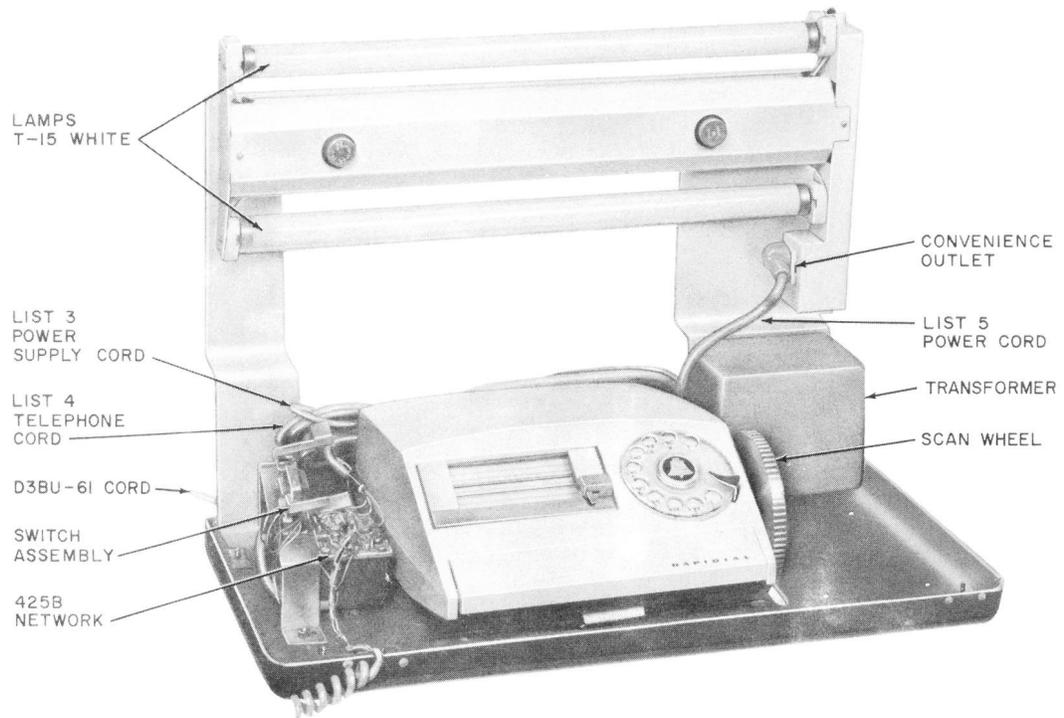
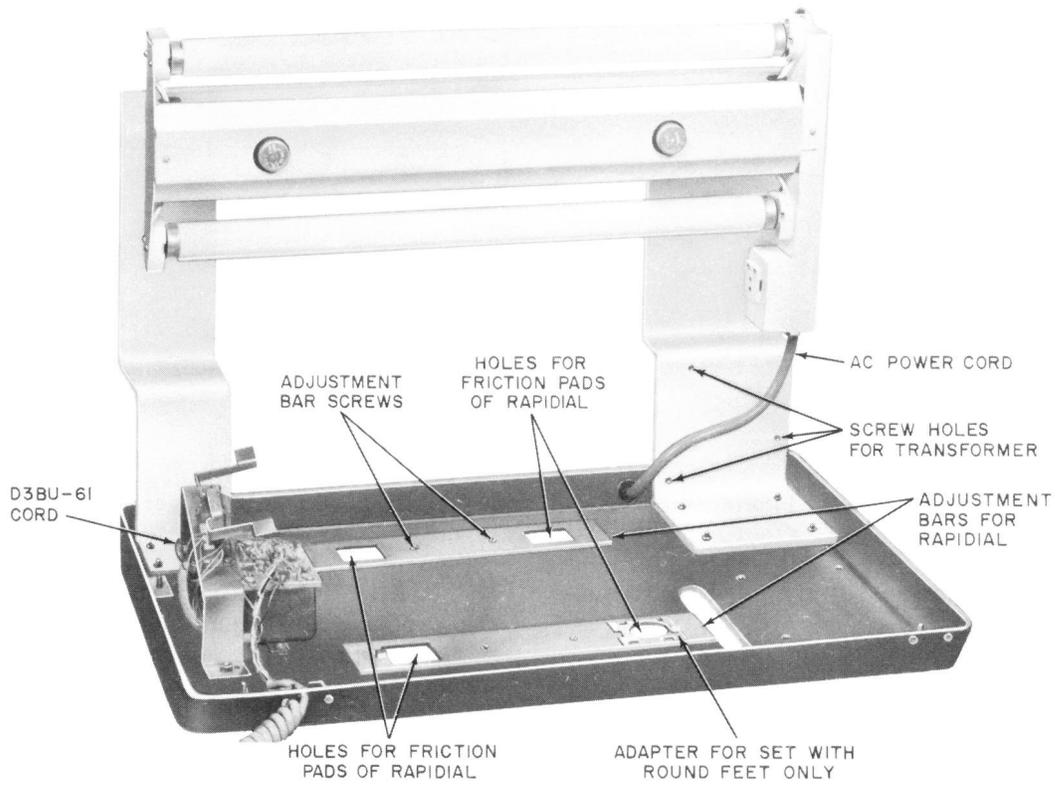

Fig. 2 — Interior View of Set with RAPIDIAL and Transformer
Fig. 3 — Interior View with RAPIDIAL and Transformer Removed
2.04 Fig. 2 is an interior view of the F-56105 set with RAPIDIAL. Fig. 3 is an interior view of this set (RAPIDIAL and transformer removed).
12. Place RAPIDIAL on adjustment bars. If RAPIDIAL has round feet, use adapters provided. See Fig. 3.
13. Do not cut off any of the excess telephone or power supply cord. Store behind RAPIDIAL as shown in Fig. 2.